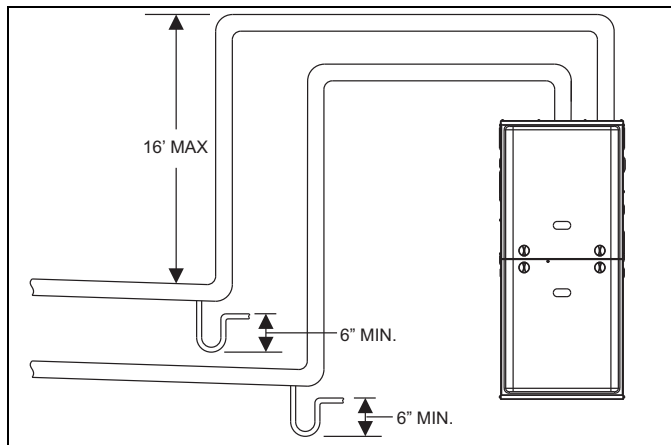

FIGURE 35: Downward Venting
1. **OUTDOOR COMBUSTION AIR:** This is a direct vent configuration where the combustion air is supplied through a PVC or ABS pipe that is connected to the PVC coupling attached to the furnace and is terminated in the same atmospheric zone as the vent. This type of installation is approved on all models. Refer to Figure 35.
This installation requires combustion air to be brought in from outdoors. This requires a properly sized pipe (Shown in Figure 35) that will bring air in from the outdoors to the furnace combustion air intake collar on the burner box. The second pipe (Shown in Figure 35) is the furnace vent pipe.